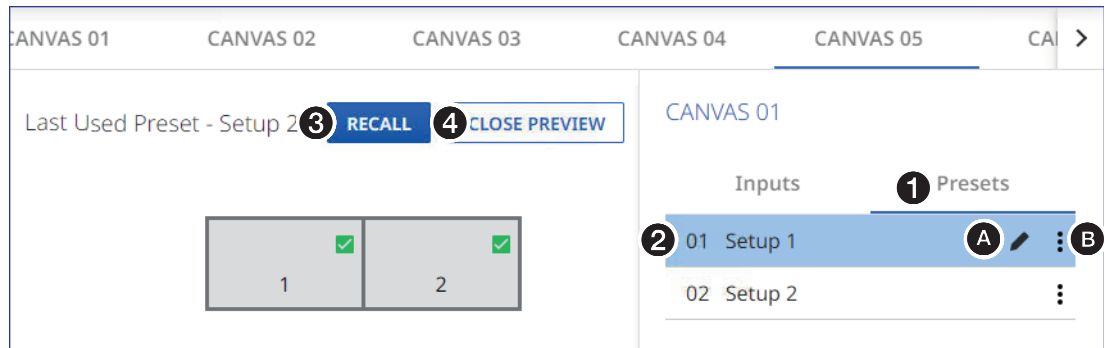

Figure 69. Recalling a Preset
1. On the window **all > Presets** page, click the Presets tab (see figure 69, ❶).
1. Click the pencil icon (see figure 69, A).
2. Type the new name in the Name field (see ❶ at right).
3. Click the **Check** icon (❷) to save the name or **X** (❸) to abandon it.